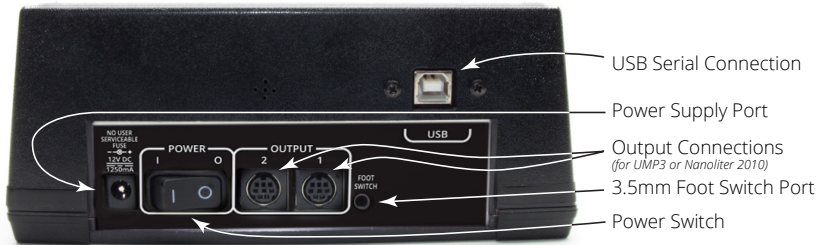

Fig. 6—The rear panel of the MICRO2T controller has the power switch and the connection ports for power, pumps, foot switch and computer control via USB.
Plug the **UMP3** cable into one of the **Output** connection ports on the back of the **MICRO2T** controller (Fig. 6). The controller allows one or two pumps to be controlled independently or simultaneously.
1. Plug the power supply into the power supply port on the rear panel of the **MICRO2T** (Fig. 6).